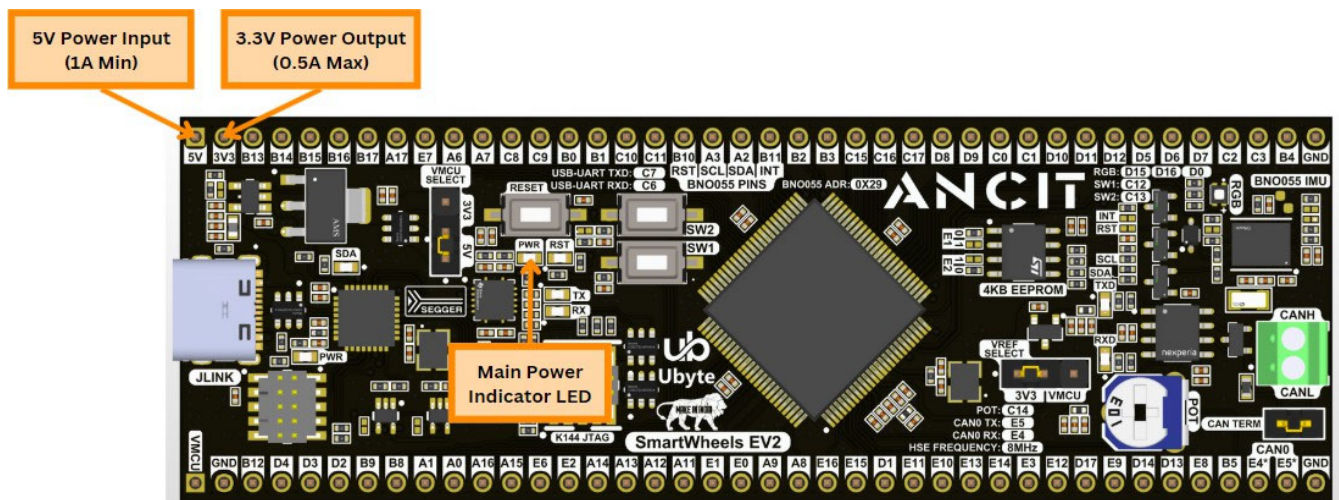

Fig 3 : Powering through 5V Power Pin
- The “PWR” LED is mentioned in Fig 3. indicates that power is being received by the SmartWheels EV2.